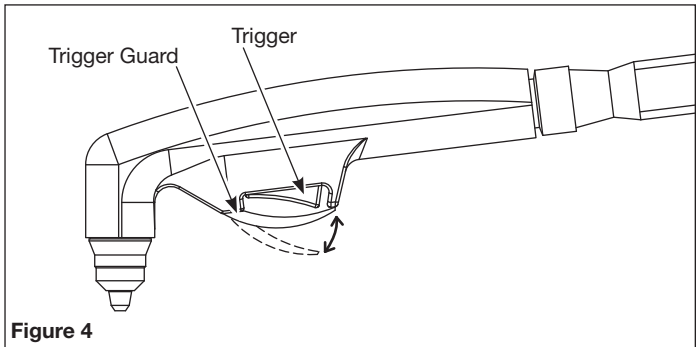

Figure 4
- ◆ The plasma torch is equipped with a trigger safety guard feature. This safety feature prevents unintentional triggering of the torch. Triggering of the torch requires the operator to insert the index finger between trigger safety guard and the trigger and then pulling the trigger with the index finger. See Figure 4.